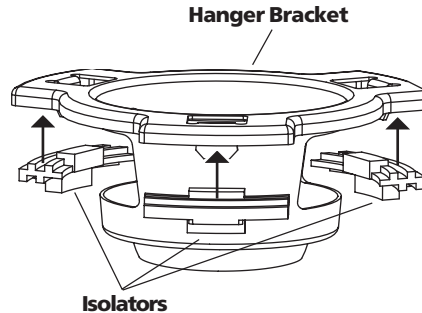

Figure 4a - Adding Isolators to the Hanger Bracket
2. Confirm that the three isolators are pre-installed on the hanger bracket. Refer to Figure 4a for location of the isolators.
Note: If the isolators are not pre-installed, place the three isolators on the hanger bracket as shown in Figure 4a.